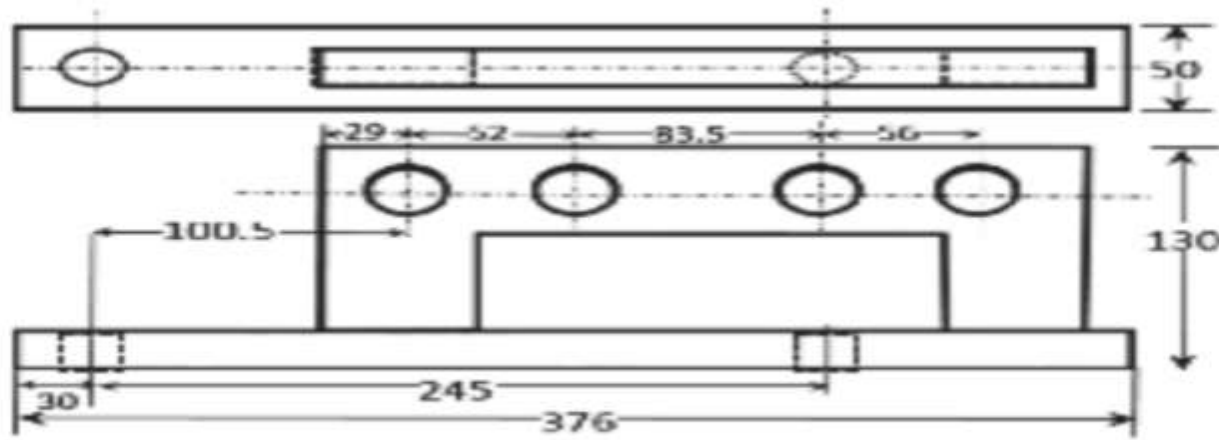

Fig. 8.12
- (a) Switch extension brackets (P brackets) – 2 Nos. (Fig.8.12)